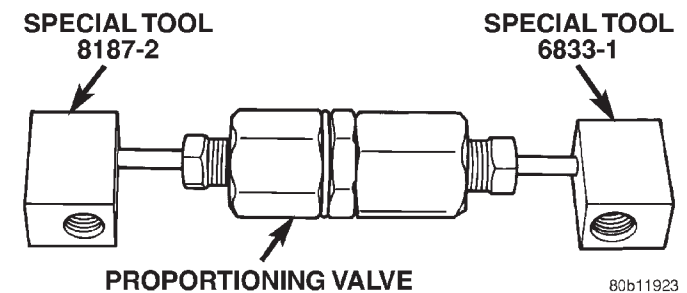

Fig. 17 Pressure Test Fittings Installed On Proportioning Valve
(4) Install Pressure Test Fitting, Special Tool 6833-1 in the inlet port of the proportioning valve (Fig. 17). Install Pressure Test Fitting, Special Tool 8187-2 in the outlet port of the proportioning valve (Fig. 17). Tighten tube nuts to a torque of 17 N·m (145 in. lbs.)